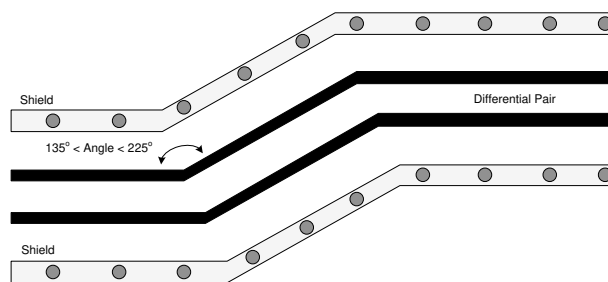

Figure 9-12. V-by-One Routing Example
- Ensure that the bend angles associated with the differential signal pairs are between 135° and 225°(See Figure 9-12).